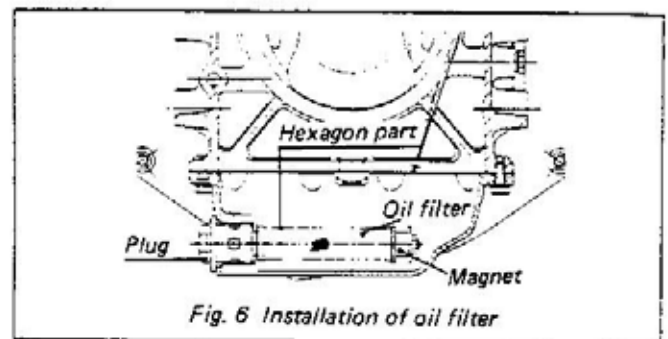

Fig. 6 Installation of oil filter
(2) Lubrication System
- The oil filter is equipped inside of the crankcase as shown in Fig. 6.